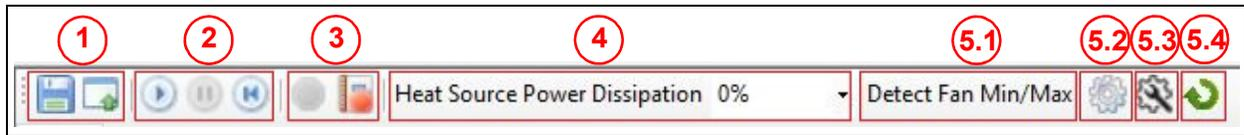
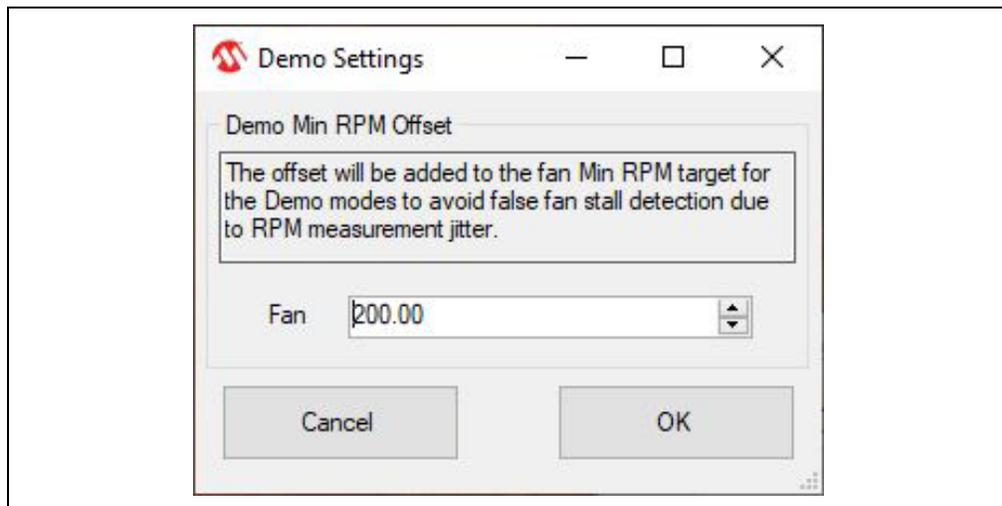
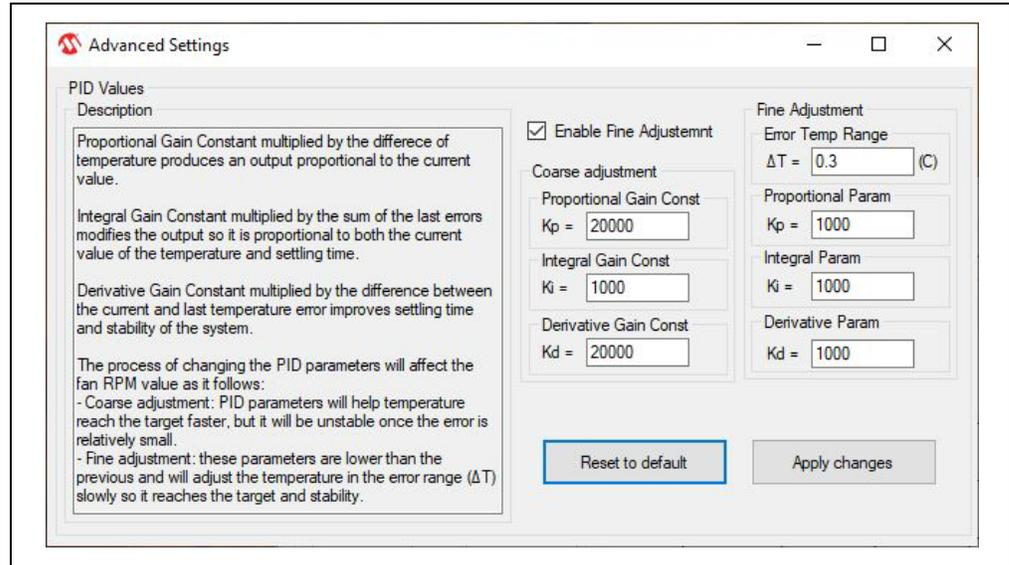

FIGURE 3-3: Control Toolbar Section.
FIGURE 3-5: Demo Settings Dialog Box.
FIGURE 3-6: *Advanced Settings Dialog Box.*
The Save/Load Settings section is noted in Figure 3-3 with the number **1**. This section allows the saving of all the currently configured GUI settings. The settings are stored in a `file.bin` file and can be reloaded to reconfigure the board. The loading process repopulates all the available fields and writes the settings into the connected ADM00902 Demonstration Board. This process takes up to 30 seconds to complete.
The Data Acquisition section (marked in Figure 3-3 with the number **2**) provides controls for starting, stopping and resetting the chart data.
The Temperature Related Options section is marked in Figure 3-3 with the number 4.
The **Demo RPM Offset** button (marked as **5.2** in Figure 3-3) opens a dialog box (Figure 3-5) in which the Min RPM offset values can be configured. This relates only to the fan control algorithm implemented in software for the demo application example. For the Auto and Constant Demo modes, the algorithm uses a minimum RPM target that consists of the minimum RPM value, specified in the **Fan Configuration** tab (Figure 3-19, number **4**), summed with the offset value.
The **Advanced Settings** button (marked as **5.3** in Figure 3-3) opens a dialog box (Figure 3-6) where the PID values can be adjusted. This relates only to the target RPM adjustment algorithm implemented in software for the demo application example. It is used for the Auto and Constant Demo modes as the RPM value must adjust in order to either reach the target temperature established as a parameter in the two modes, or keep it constant, depending on which mode is used.
The **Update** button (marked as **5.4** in Figure 3-3) refreshes the GUI fields with the values read from the chip.
- When the temperature exceeds the maximum value, the fan speed is adjusted in order to keep the temperature at the maximum limit, with a hysteresis of $\pm 0.3^{\circ}\text{C}$ value, which can be modified from the Advanced Settings menu (Figure 3-6). This outcome is dependent on the cooling solution (appropriate heat sink to dissipate the heat).
- When the temperature exceeds the target value, the fan speed is adjusted, in order to keep the temperature at the target limit, with a hysteresis of $\pm 0.3^{\circ}\text{C}$ value, which can be modified from the Advanced Settings menu (Figure 3-6). This outcome is dependent on the cooling solution (appropriate heat sink to dissipate the heat).